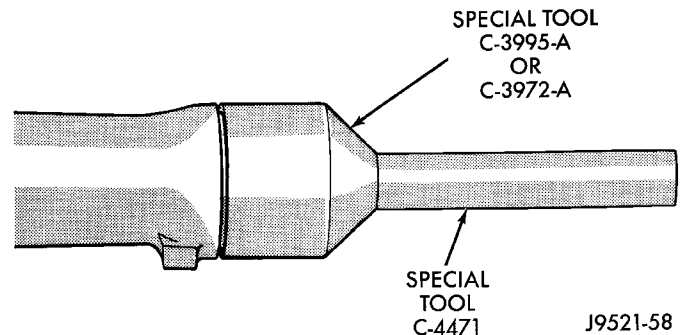

Fig. 19 Installing Overdrive Housing Yoke Seal
- (1) Place seal in position on overdrive housing.
- (2) Drive seal into overdrive housing with Seal Installer C-3995-A (Fig. 19).
- (3) Carefully guide propeller shaft slip yoke into housing and onto output shaft splines. Align marks made at removal and connect propeller shaft to rear axle pinion yoke.